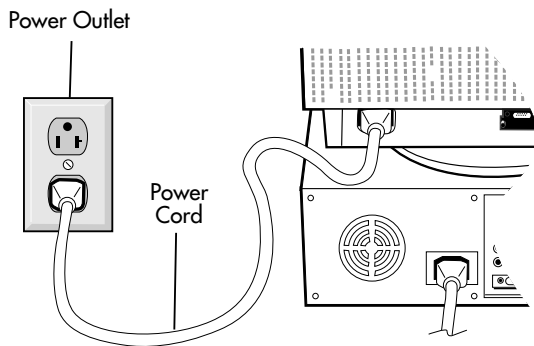

Figure C.1
5. Connect one end of the power cord to the MultiSync E1100+ monitor and the other end to the power outlet (**Figure C.1**).